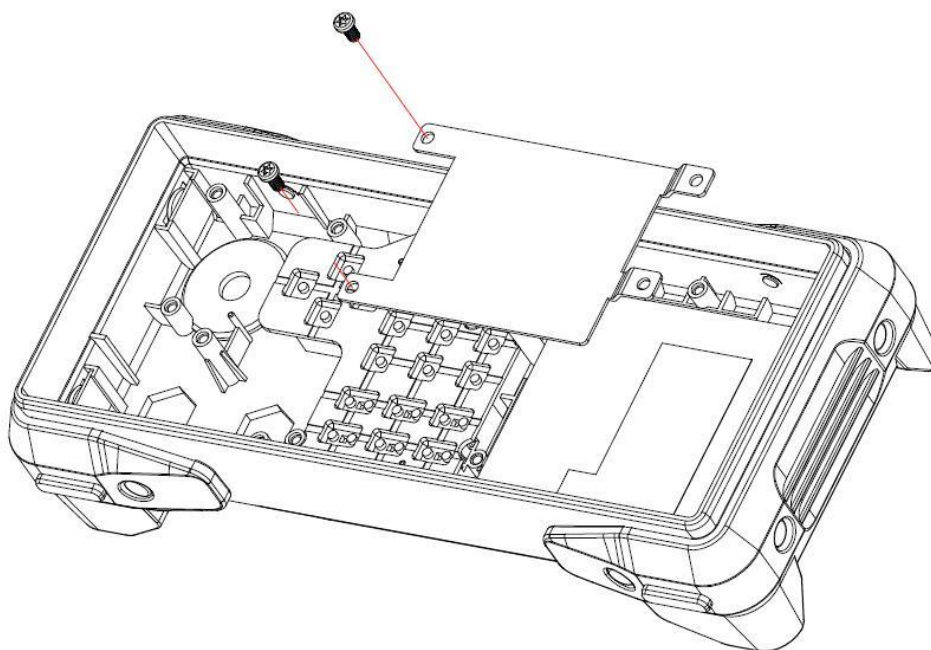

Figure 3-7
3.5.3 Remove the 2pcs M3 screws from metal near the LCD display, then remove the LCD display and metal. Figure 3-7